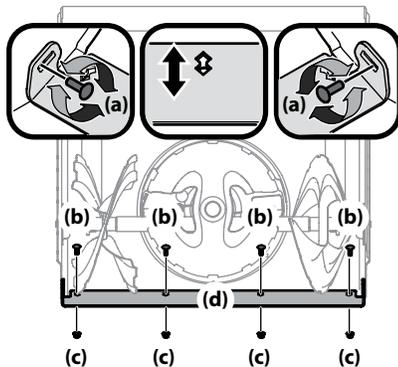

Figure 2-50
3. Loosen rear skid shoe bolts (a) on both sides of auger housing and remove carriage bolts (b) and hex nuts (c) which attach shave plate (d) to the bottom of the auger housing. See Figure 2-50.
4. Adjust the shave plate to one of 2 mounting positions. Reinstall and tighten the carriage bolts (b) and hex nuts (c) all bolts securely. See Figure 2-50.